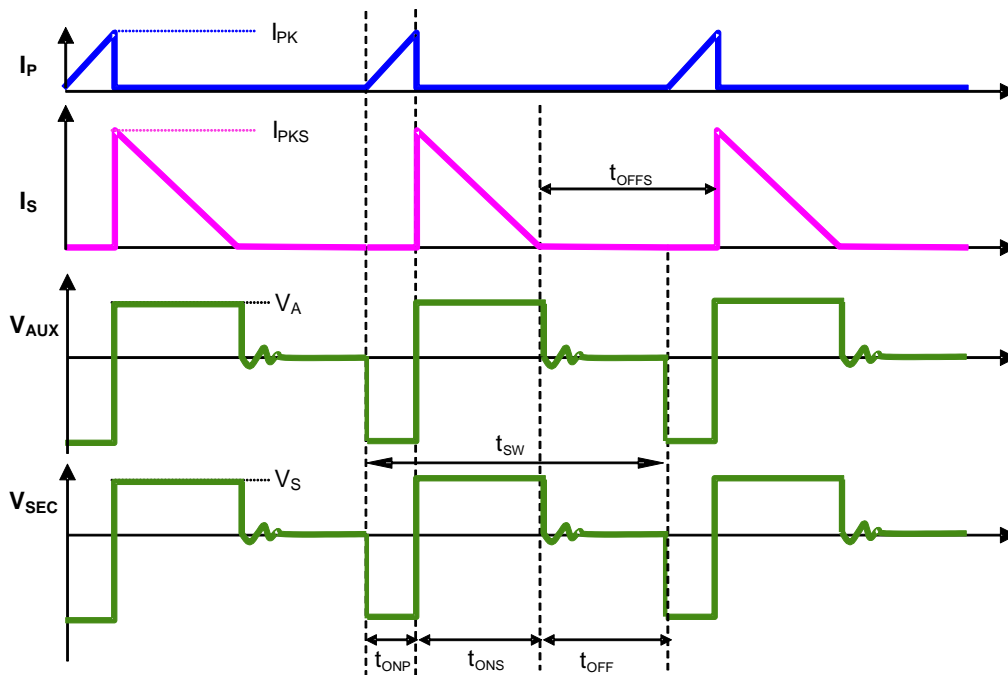

Figure 2 The Operation Waveform of Flyback PSR System
Figure 2 shows the typical waveforms which demonstrate the basic operating principle of the AP3983R application. And the parameters are defined as the following.
As illustrated in Figure 2, when the current $i_p(t)$ rises up to I_{PK} , the switch Q1 turns off. The constant peak current is given by:
The AP3983R can work in constant-current (CC) mode. Figure 2 shows the secondary current waveforms.